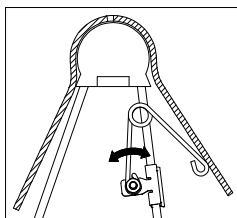

Figure F1: Cutaway view of driver side pivot arm and saddle.
2. **Set coupler angle.** Adjust the resting angle of your coupler plate by rotating the spring on the driver side pivot arm. Pulling the top of the spring away from the cab will increase the angle of the coupler plate. Set the angle of the coupler so that it will tilt away from the cab when coupling, see Figure F1. Tighten the 1/4" nut once the spring's orientation is set.